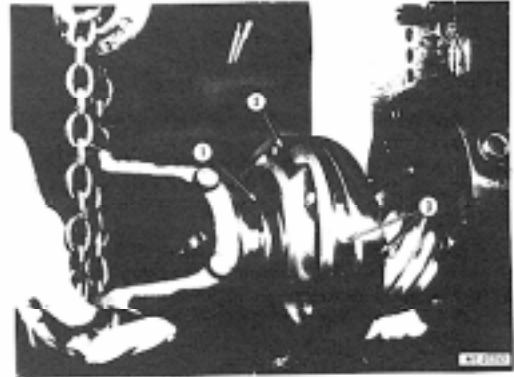

Fig. 21. Removing Pinion And Cage (Rear Rear Shown)
- Remove pinion and cage assembly from carrier (Fig. 21 Temporarily install stud bolts to aid in removal.